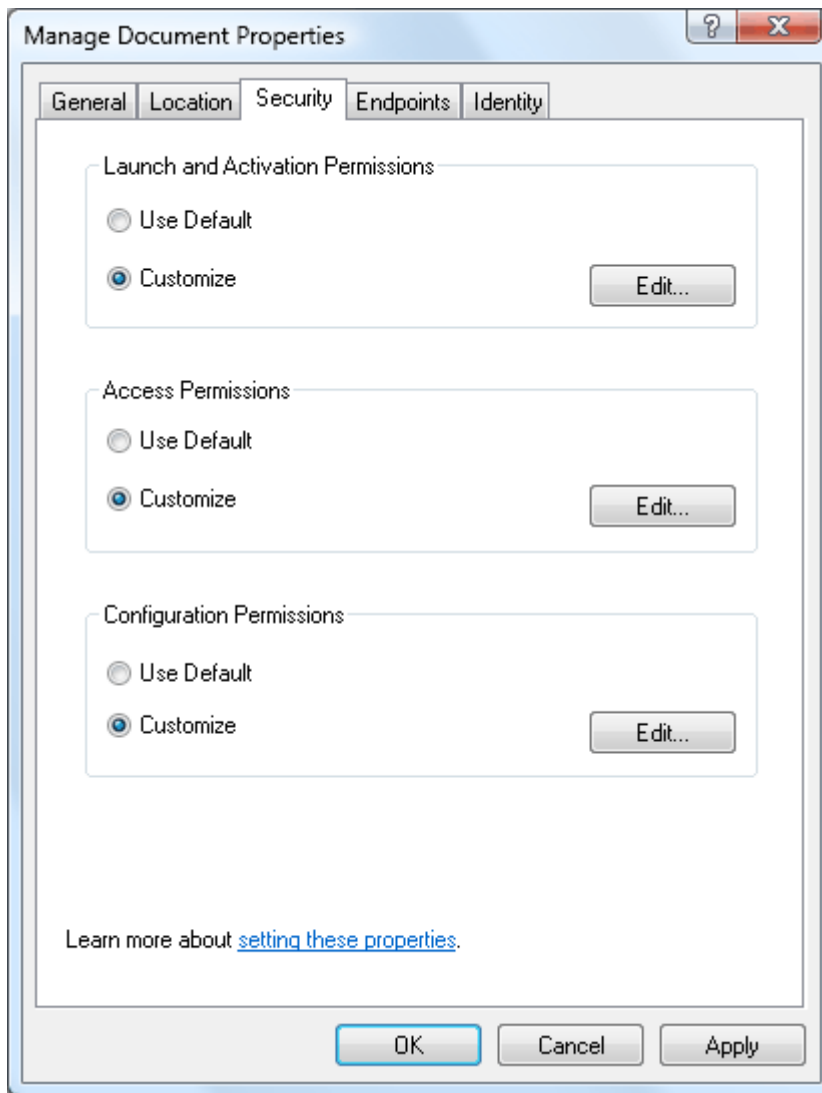

*Figure 4-18: Manage Document Properties Window-Identity Tab*
6. Select the **Identity** tab, as shown in Figure 4-18.